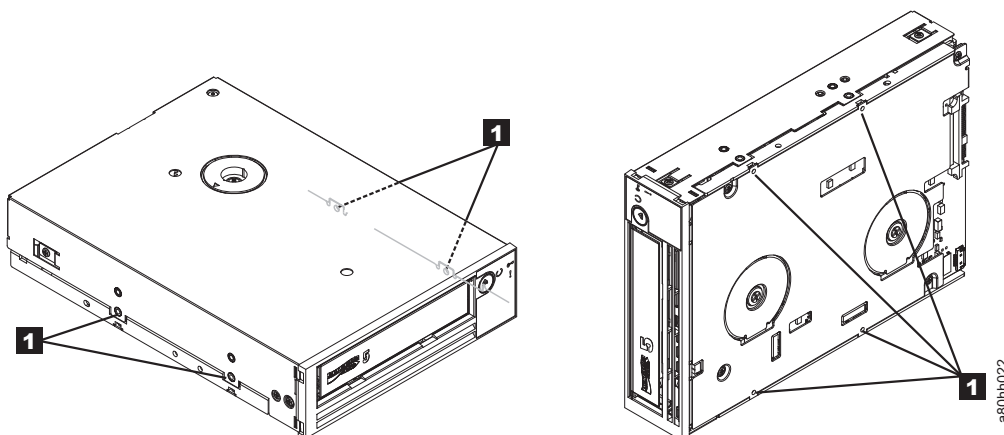

Figure E-5. Removing the bezel and the cover from the internal drive
- 1) Remove the four cover-mounting screws ( **1** in Figure E-5). Two screws are on each side of the drive.